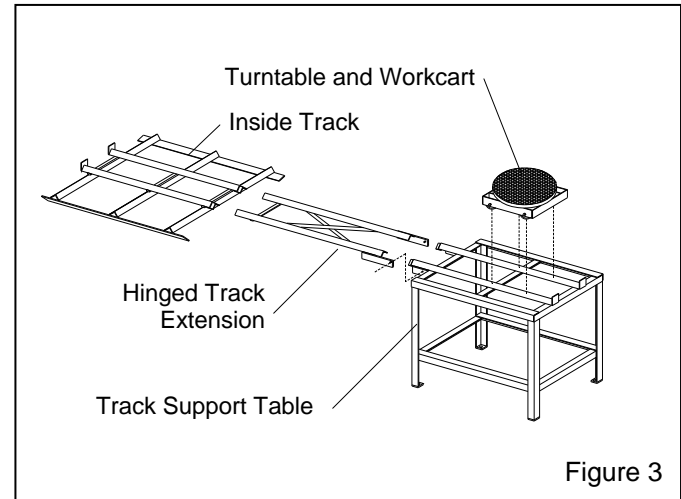

Figure 3
3.4.1 The components of the Turntable and track assembly are shown in Figure 3. The assembly consists of: